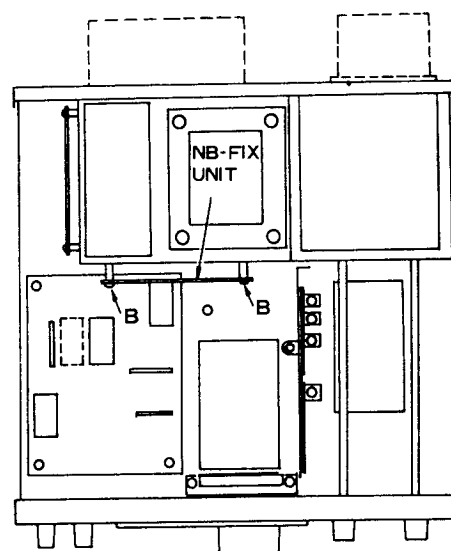
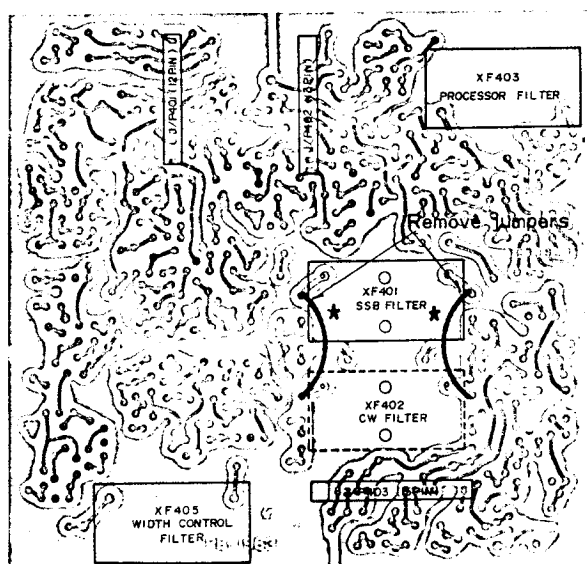

Figure 2
Figure 3
- (2) Refer to Fig. 2, and locate the NB-FIX circuit board. Remove its mounting screws, because this board is obstructing the removal of the IF unit.
- (3) Remove the 12-pin, 13-pin, and 15-pin plugs from their sockets on the IF unit. Remove the IF unit mounting screws, and remove the IF unit from the transceiver case.
- (4) Install the optional CW filter as shown in the foil side view of the IF unit (Fig. 3). Make the fastening nuts snug, and solder the pins of the filter to the circuit board, and remove the 2 jumper wires shown in Figure 3.
- (5) Re-install the IF unit, being careful to connect the 12-pin, 13-pin, and 15-pin plugs in the correct sockets. Refer to Fig. 3 to be sure. Re-install the NB-FIX unit, and replace the top cover of the transceiver.
- (6) When the optional CW filter is installed, the CW-N position of the mode switch will activate this filter. In the CW-W position, the SSB 2.4 kHz filter will be in use. The WIDTH control is usable in all modes.